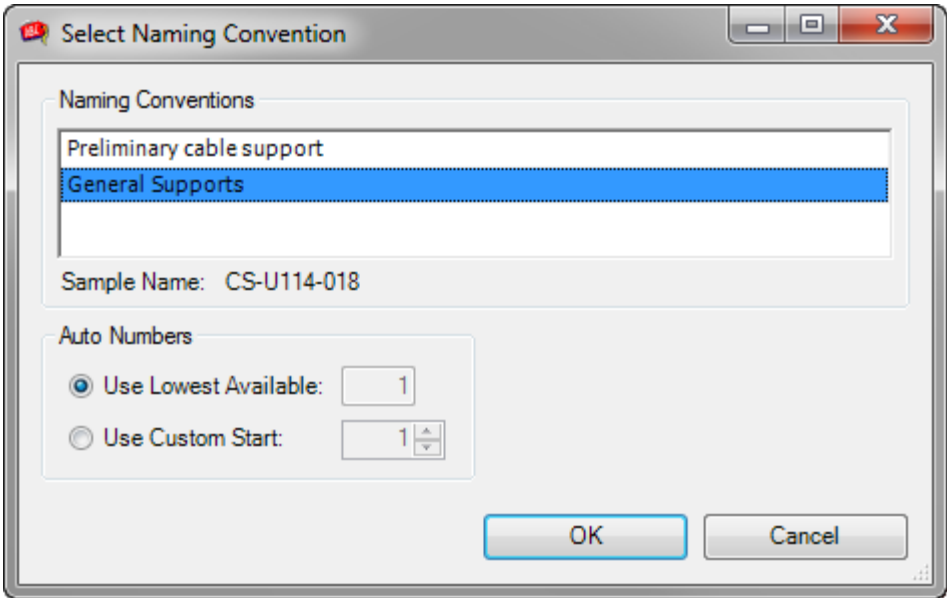

Figure 77: SCCableSupportName command naming convention selection dialog
3. Next you select a naming convention and starting autonumber (see Figure 77 above). An example of the selected naming convention is shown under the naming convention list. You can choose to use either the lowest autonumber available (the number available is shown), or you can specify an arbitrary starting number. If you click cancel at the naming convention selection dialog, the command will be cancelled.